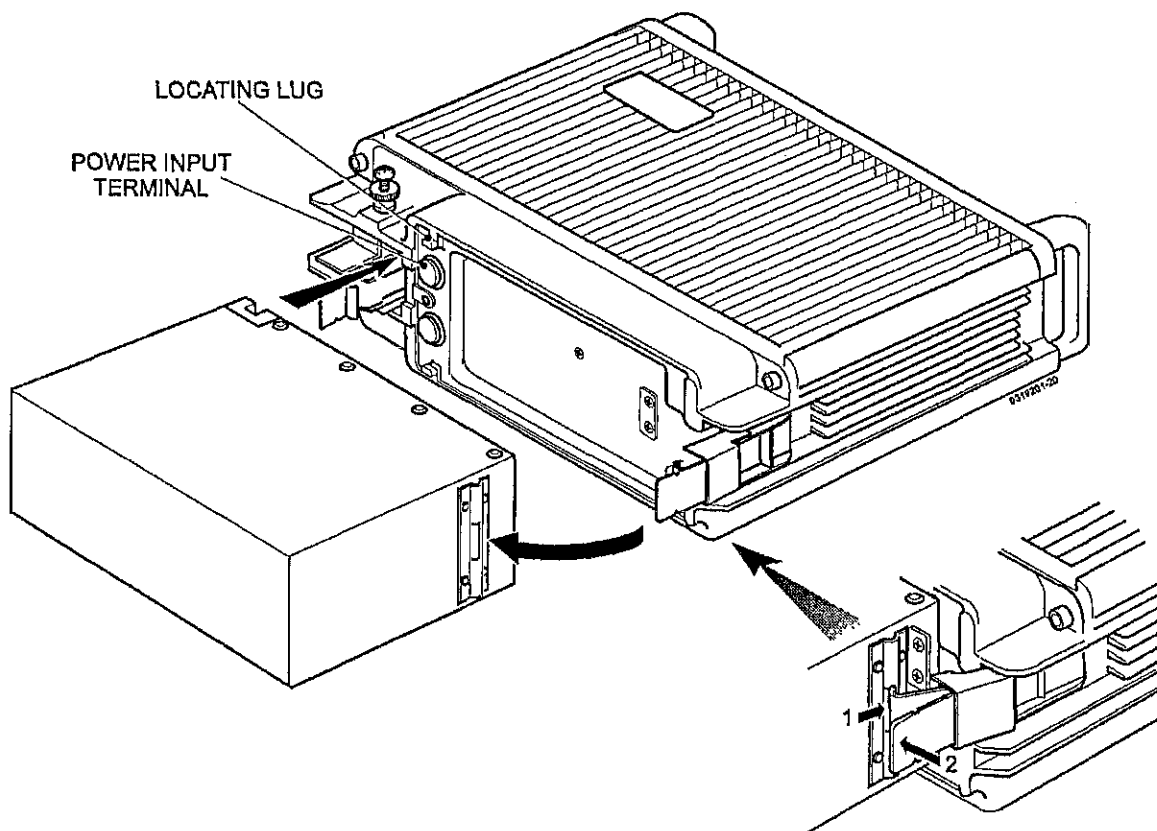

Fig 18 R/T unit battery replacement
76.3 Carefully align the battery with the R/T unit rear panel terminals and adjacent locating lugs (Fig 18), and secure with the two quick-release fasteners.
- 80.3 Carefully align the battery with the R/T unit rear panel terminals and adjacent locating lugs (Fig 18), and secure with the two quick-release fasteners.